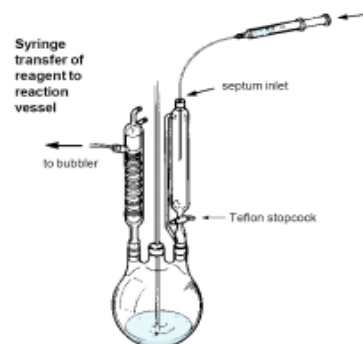

Fig. 2C Syringe transfer of reagent to reaction vessel
- The desired volume of reagent in the syringe is quickly transferred to the reaction apparatus by puncturing a rubber septum as illustrated in **Fig. 2C**.